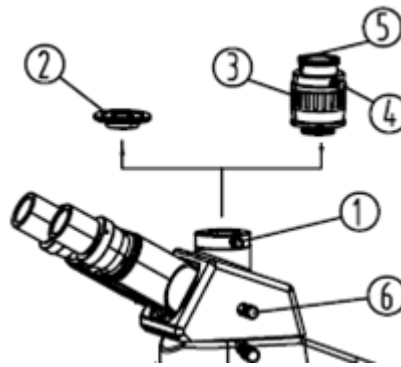

Fig.20 C-Mount Adapter
- Loosen the locking-screw ① (Fig.20) on trinocular head and take off the cap ② on the vertical tube/port.
- Remove the cap on the C-mount ③ and put the adapter into the port and lock in-place with the screw ①.
- The C-mount adapter's top threaded mount ⑤ is a standard external C-thread. Your video camera should have an internal C-thread. Thread your camera onto the C-mount adapter.
- Loosen the locking screw ④ to rotate your camera until the image is properly oriented. The C-mount adapter includes an independent focusing ring; adjust for the best image.
- Push back the beam splitter slide lever ⑥ when not using the vertical port for video/photography.